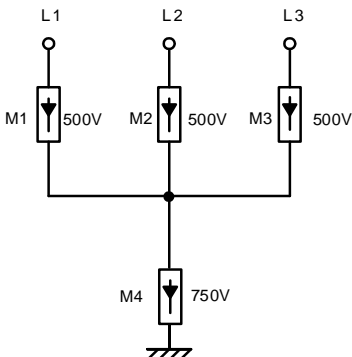

Fig. 6-3 The schematic diagram of AC SPD
3) The maximum continuous working voltage and action voltage of the low-voltage side lightning protection device of the grid-connected transformer must meet the requirements. The "3+1" method is recommended as shown in Fig. 6-3, where the maximum continuous working voltage of M1-M3 are 500V, M4 is more than 750V.